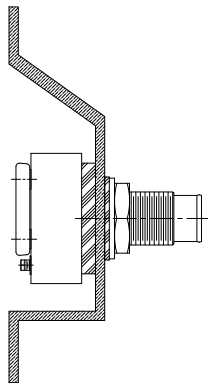

FIG.7 Side Mounted Recess.
1.6.2 When recessing the unit into the side of the hull for generator sets and/or equipment operating at dockside, angle the top of the recess box to improve convection current over the cooler. See Figure 7.